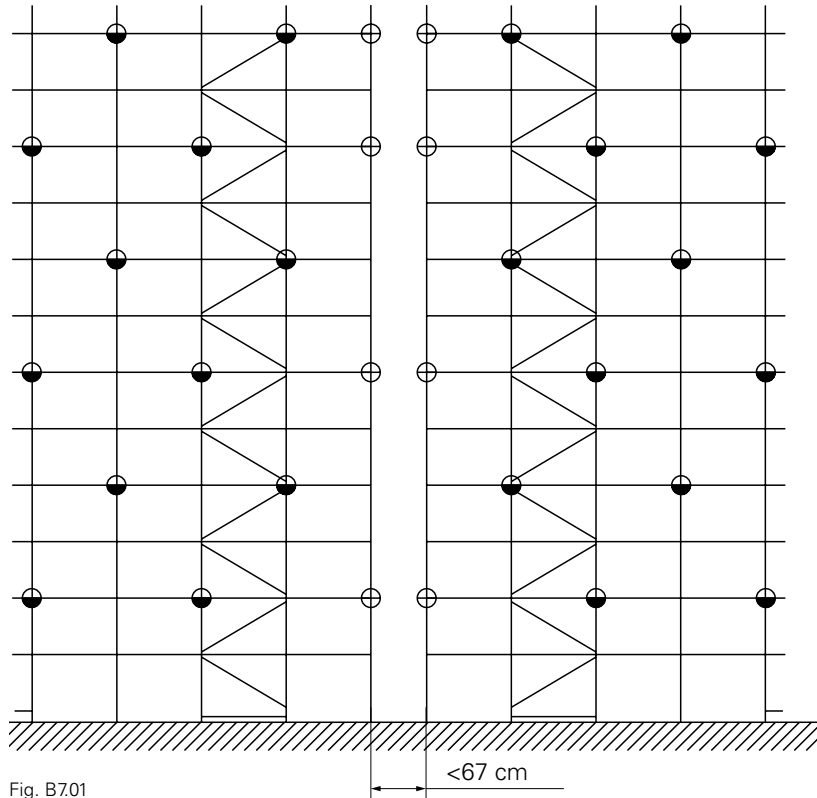

Fig. B7.01
- Erect the scaffolds to the right and left of the filler area as stand-alone scaffolding. Anchor the edge standards according to the respective tie pattern. (Fig. B7.01)